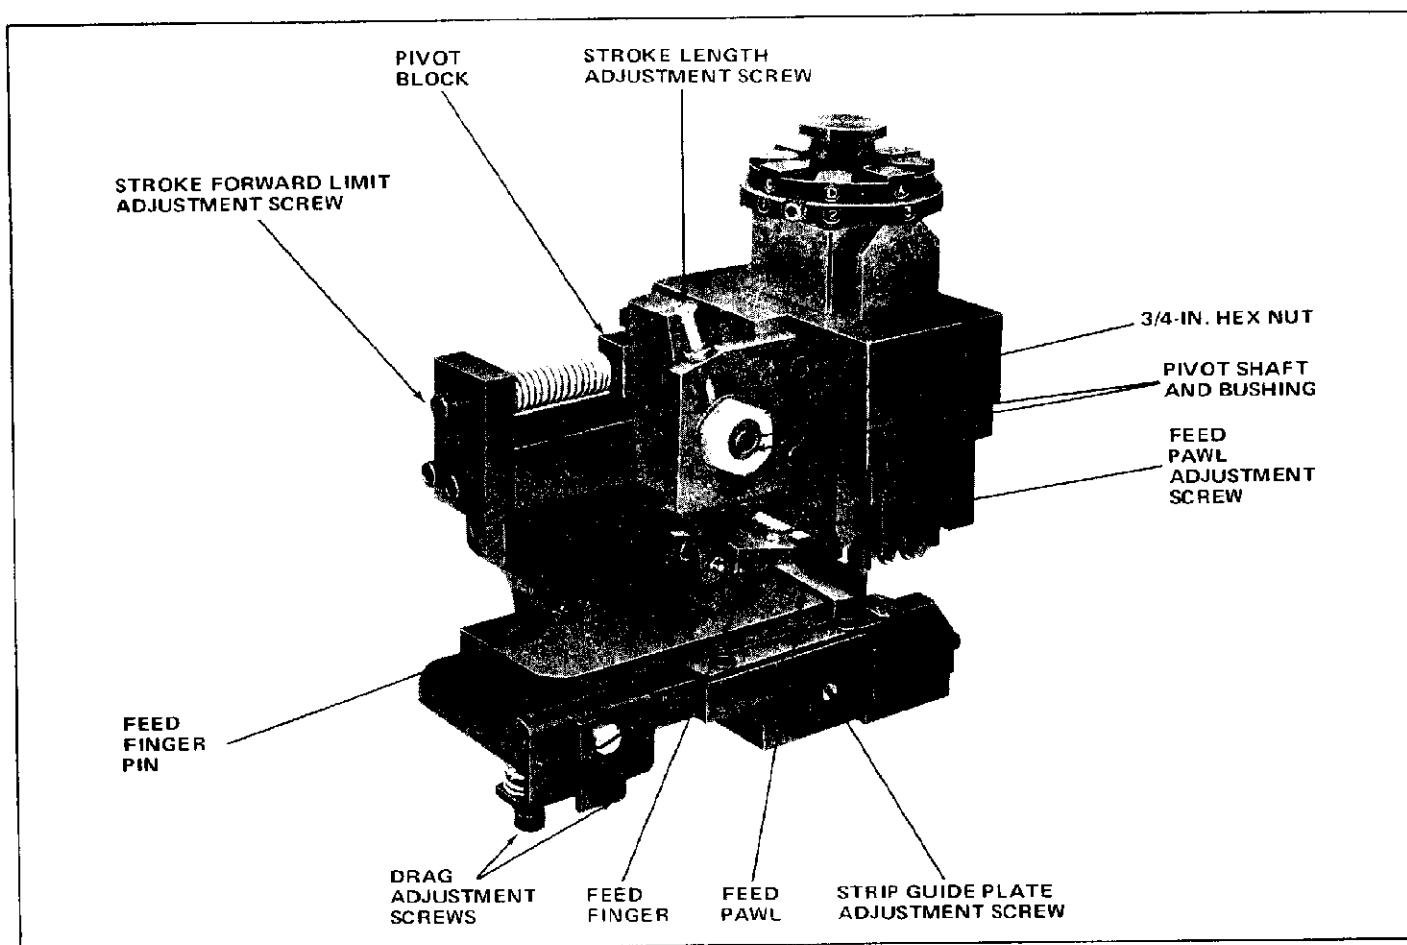

FIGURE 2
3. Loosen screw on top of pivot block (see Figure 2). Turn the stroke forward limit adjustment screw **COUNTERCLOCKWISE** to move the forward limit **TOWARD ANVIL**, or **CLOCKWISE** to move the forward limit **AWAY FROM ANVIL**. Tighten screw on top of pivot block.
7. Loosen slightly the 3/4-in. hex nut, on side of applicator, to allow pivot shaft to move in slot (see Figure 2).